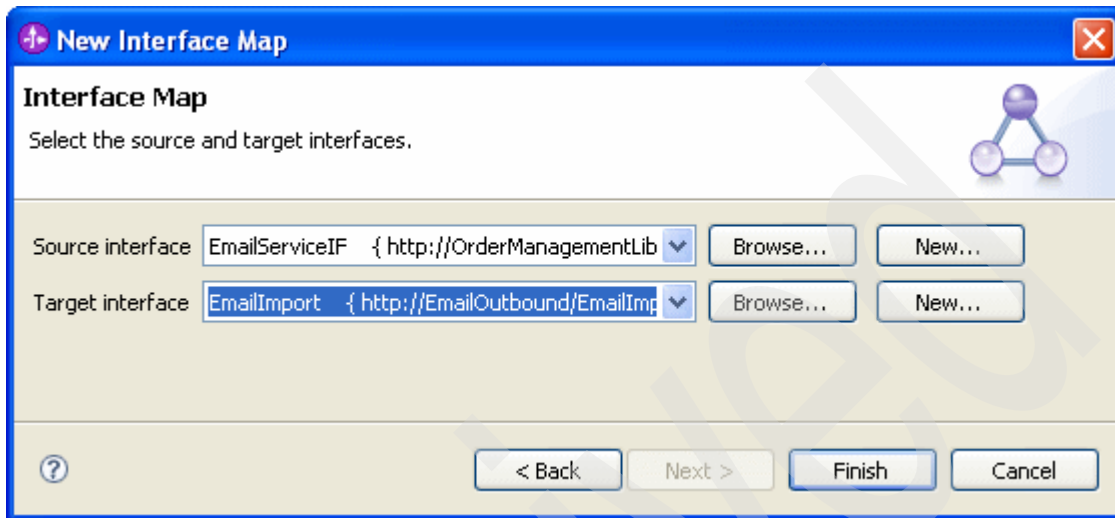

Figure 3-230 New Interface Map wizard source and target selection
- c. Set the source and target interfaces. Use **Browse** to select EmailServiceIF as the source interface and to select EmailImport as the target interface. Then, click **Finish**. See Figure 3-230.